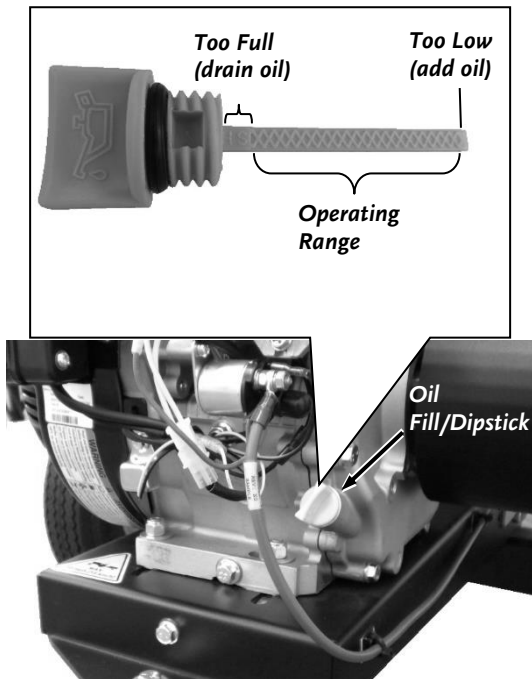

Figure 8
- Remove the Engine Oil Fill/Dipstick and initially add 1/2 of the SAE 30 high detergent Oil recommended by the Engine Manufacturer and wait one minute for the Oil to settle (**Figure 8**).